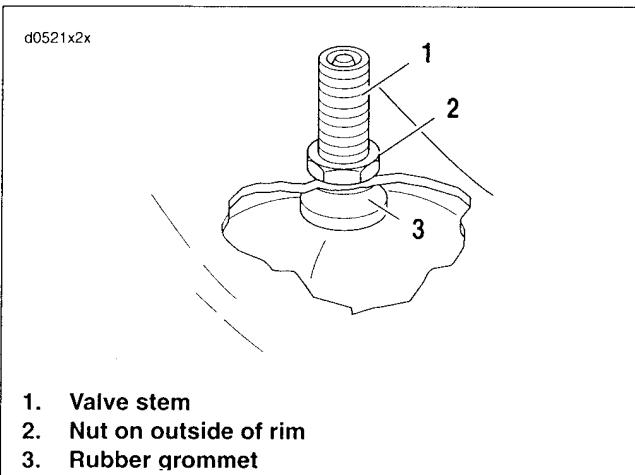

Figure 2-56. Valve Stem
1. See Figure 2-56. Place rubber grommet (3) on valve stem (1) with shoulder in recess of the valve stem head.
- b. Install nut (2). Tighten to 12-15 in-lbs (1.4-1.7 Nm).